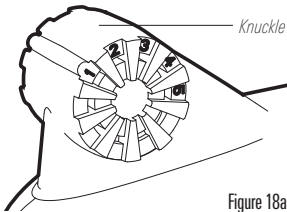
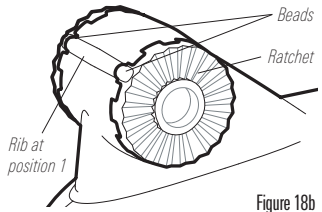
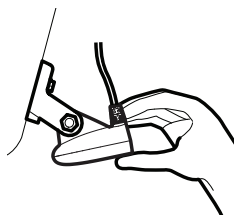

Figure 18a
Figure 18b
Figure 21
- Place the two ratchets, one on either side of the transducer knuckle, so that the beads on each ratchet line up with the desired position number on the knuckle (Figure 18a). If you are setting the ratchets at position 1, the beads on each ratchet will line up with the rib on the transducer knuckle to form one continuous line on the assembly (Figure 18b).
5. Adjust the initial angle of the transducer from back to front by rotating the transducer until the side seam on the transducer is almost parallel with the bottom of the boat, one click at a time in either direction (Figure 21 and 22).
If you are still not getting good high speed readings, you may need to disassemble the transducer mounting assembly and re-position the ratchets (Figures 18a - 18d).
8. Re-position the transducer bracket against the transom of the boat, then hand-install all three screws. Make sure that the transducer location has not changed, then fully tighten all three mounting screws (Figure 27). **Hand tighten only!** Re-install the transducer to the mounting bracket, making sure to assemble the ratchets in the same location they had before. (See Figures 18a - 18d and Figure 21 - 22). If you have performed the preceding procedures correctly, the transducer should be level and at the right height for optimal operation.